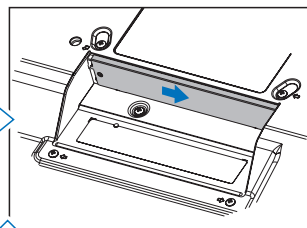
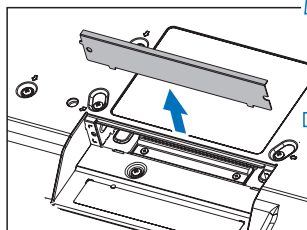

Figure 2
Figure 3
3. Remove the attached slot cover by unscrewing the installed screws (**Figure 1**), sliding to right (**Figure 2**) and moving up (**Figure 3**).